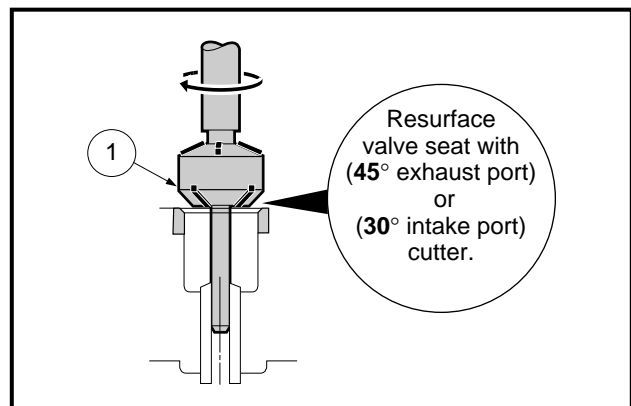

Figure 13-26 Resurfacing Valve Seat
- 2.4. Resurface the valve seat with a 45° (exhaust port) or a 30° (intake port) cutter (CCI 101655401), removing only enough material to produce a smooth and concentric seat (**Figure 13-26, Page 13-15**).